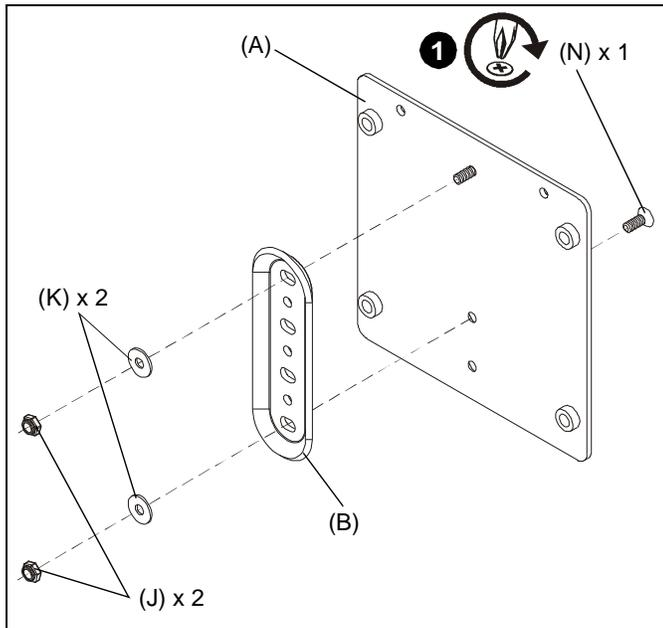

Figure 1
1. Align bracket (B) with attachment plate (A), lining up rivet on attachment plate with top mounting hole on bracket.
2. Fasten bracket (B) to attachment plate (A) using one 10-24 x 1/2" Phillips undercut metal screw (N), two #10 flat washers (K) and two 10-24 nylon locknuts (J). (See Figure 1)